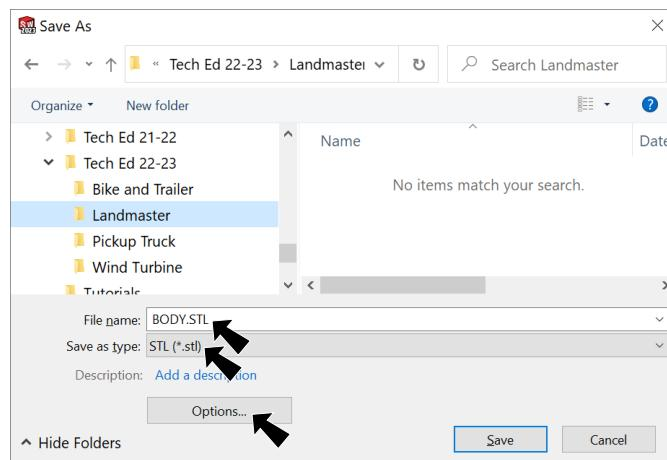

Fig. 5
Step 4. In the Save As dialog box, Fig. 5